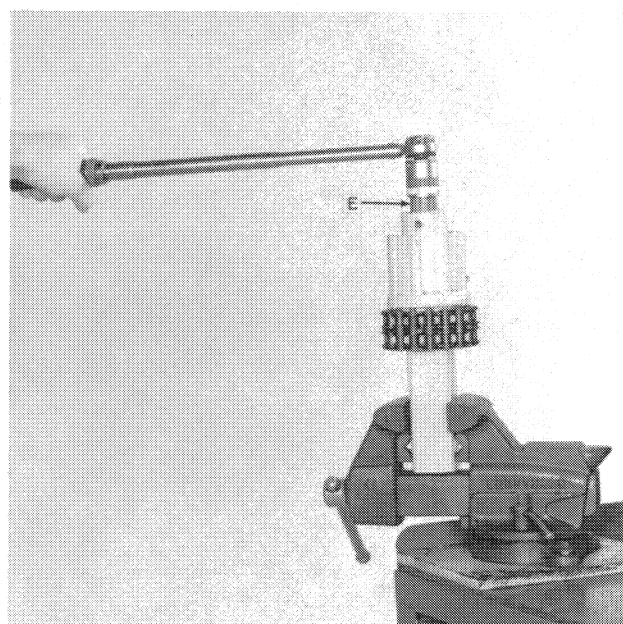

Figure 2-12
4. Check the torque with a torque wrench and 1-1/8" socket as shown in Figure 2-12.
14. Slip the clutch using the same arrangement shown in Figure 2-12. This will insure that the clutch will slip. See "Row Unit Slip Clutch Inspection," in this section, for information on securing the clutch in a vise and how to slip using a bar or torque wrench.